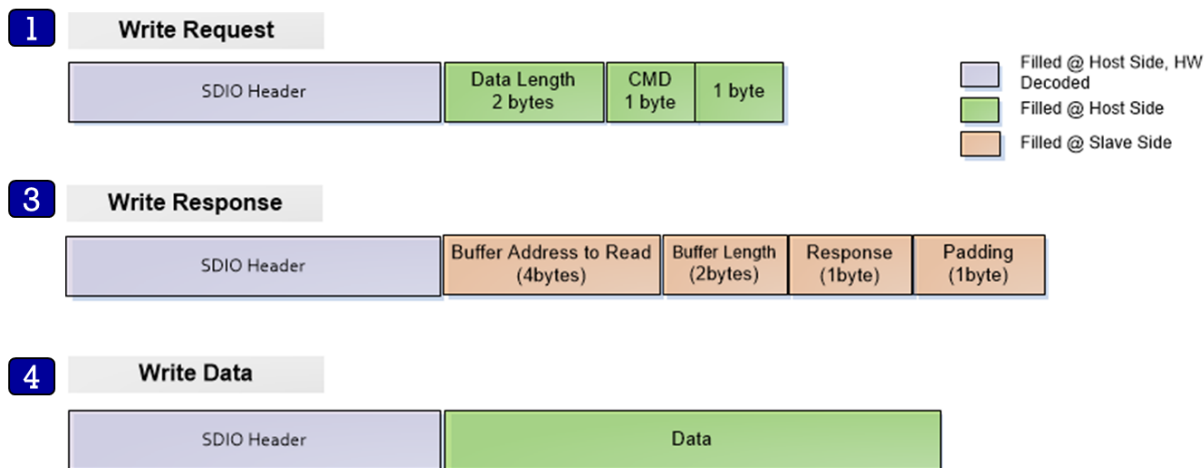

Figure 14: Structure
4. The Host sends data to address (BUFF_ADDR) which is received from the Slave in the Write Response message (green rectangle in Figure 14).